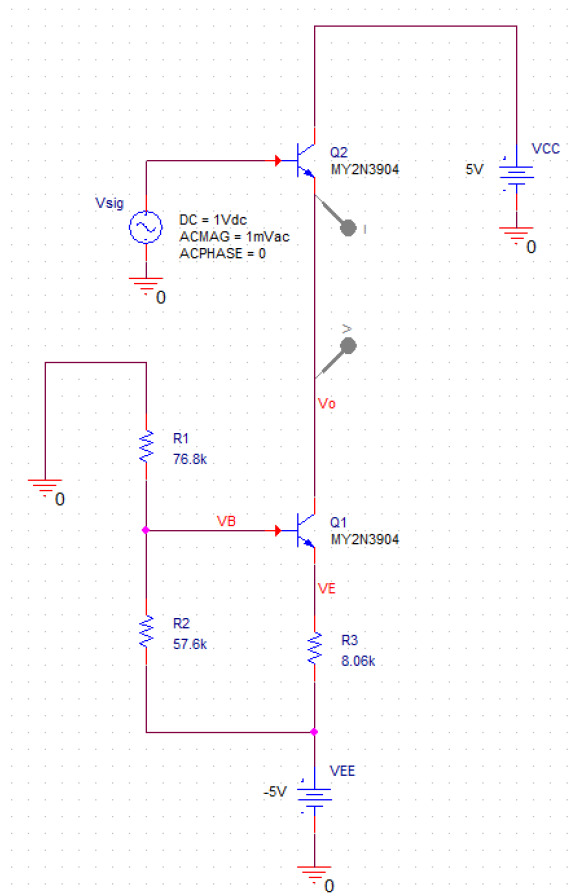
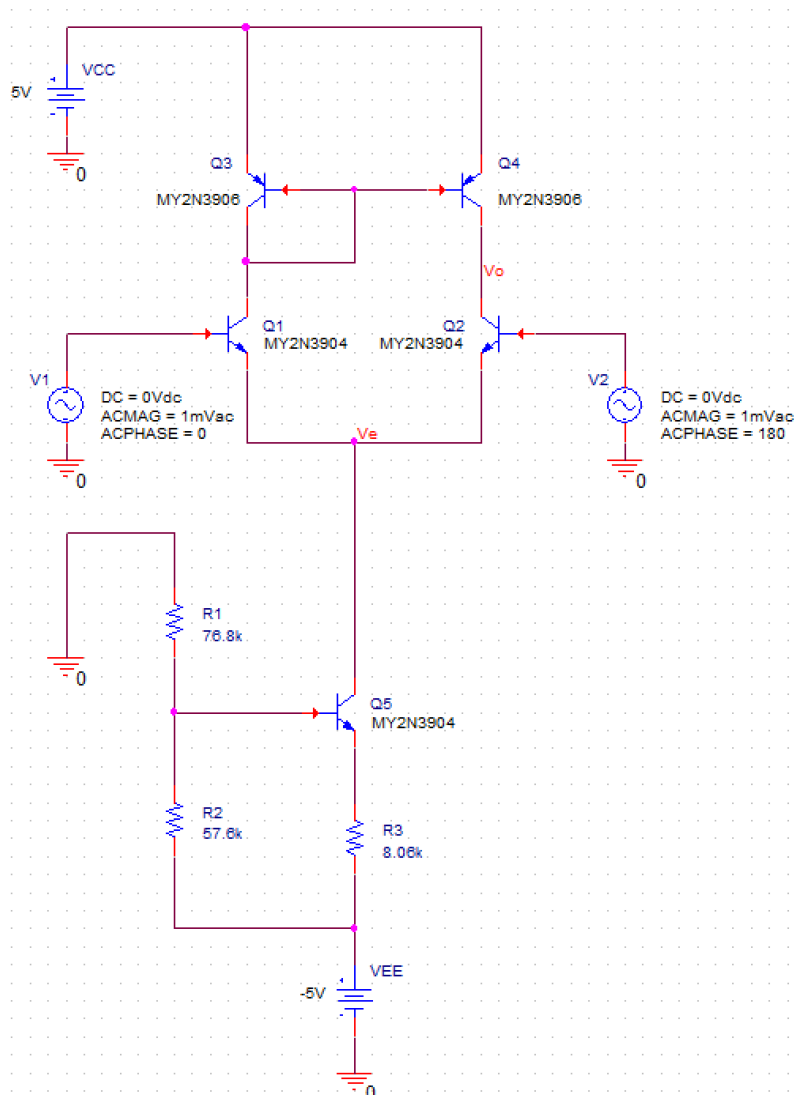

Fig. 1 Schematic diagram of the common-collector (CC) amplifier
Fig. 4 Schematic diagram of the differential amplifier with a CM load for differential-mode analysis
- 1.1 In PSpice, construct the CC amplifier, as shown in Fig. 1, using an NPN-BJT 2N3904 and the current sink characterized in Fig. 1, Lab 2. Here, V_{sig} provides the required DC bias for Q_2 and the AC signal for the CC amplifier.
- 1.4 Based on Fig. 1, construct the measurement setup for the common-collector (CC) amplifier. Use $V^+ = 5\text{V}$ for V_{CC} , $V^- = -5\text{V}$ for V_{EE} , and Wavegen 1 (W1) for V_{sig} . Connect GNDV+, GNDV-, and GNDW1 to a common ground line.
- 3.1 As shown in Fig. 4, construct a differential amplifier in PSpice using the current mirror (CM) load characterized in Part 1.
- 3.2 **Frequency Response:** Set the DC values of V_1 and $V_2 = 0$ V and their AC amplitude 1 mV. For the differential-mode signal, set the phases of the AC signal V_1 and V_2 to be 0° and 180° , respectively, as shown in Fig. 4. In this setting, the differential-mode signal $v_{id} = V_1 - V_2 = 1$ mV $- (-1$ mV) $= 2$ mV. Conduct AC sweep for V_o in Logarithmic with Start Frequency = 100 Hz, End Frequency = 100 kHz, and Points/Decade = 101. In the simulator window, click the Add Trace icon , choose Plot Window Templates under Functions or Macros, select Bode Plot – dual Y axes(1), select V(V_o) in Simulation Output Variables, and press OK. Record the simulated magnitude and phase of V_o in the sheet “Step 3.2” of the Excel file “Lab 3 – Multistage Amplifier.xlsx”.
- 3.4 Based on Fig. 4, construct the measurement setup for the differential amplifier with a current mirror load. **Tip:** Replace the two $8.25\text{ k}\Omega$ resistors in Lab 2 with the current mirror.
- 3.9 **Multistage Amplifier Gain:** Connect the output (the collector of Q_2 in Fig. 4) of the differential amplifier to the input (the base of Q_2 in Fig. 1) of the common-collector (CC) amplifier to form a multistage (or 2-stage) amplifier. Connect Scope Ch. 2 Positive (2+) to V_o (the emitter of Q_2 in Fig. 1). Run workspace script “Lab3_Step3.7.dwf3work” again with the same W2Offset value set in Step 3.7. Display the measurement results using the Scope function in WaveForms. Use Y Cursors to set their upper and lower peak values and the Ref function to calculate the difference. Record the measured peak-to-peak amplitudes of Scope Ch. 1 Positive (1+) and Scope Ch. 2 Positive (2+) in the sheet “Step 3.9” of the Excel file “Lab 3 – Multistage Amplifier.xlsx” to calculate the differential-mode voltage gain A_{vd} in dB. Copy and paste the screenshot of the measurement results to replace the one in the sheet “Step3.9” of the Excel file “Lab 3 – Multistage Amplifier.xlsx” to support your calculation. Make sure to capture the date and time of your PC in the screenshot to avoid mark deduction.